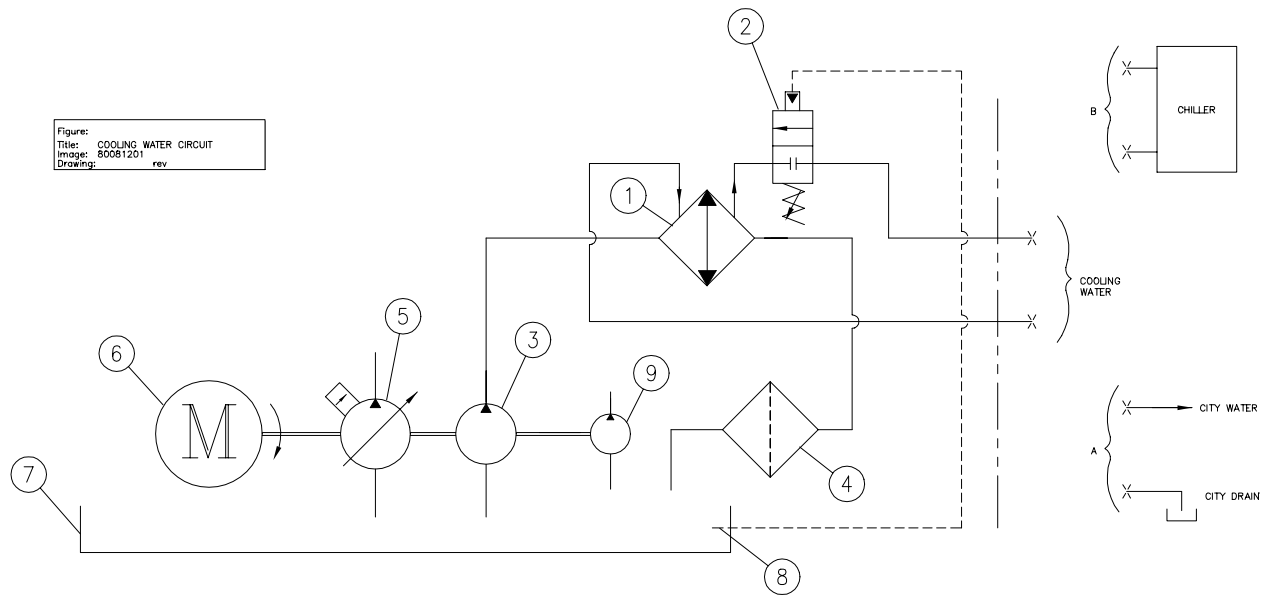

Figure 6.2 Cooling Water Circuit-SLIV Waterjet Pumps
6.1 Oil Cooling Water Supply (See Figure 6.2)